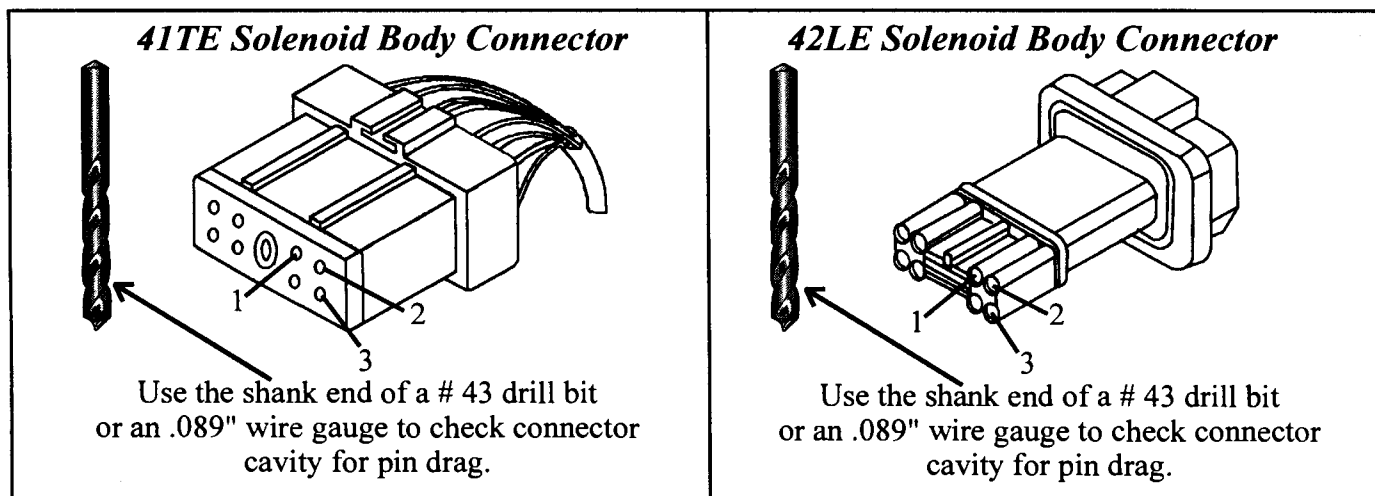

Figure 29
- Inspect cavities 1, 2 and 3 in the solenoid body 8 way connector for being spread, corroded or pushed back to far. Use the shank end of a # 43 drill bit or a .089" wire gauge to check the terminal for pin drag (See Figure 29). Vehicles equipped with the 41TE transaxle have a connector repair kit available from Chrysler under part number 4419476 if connector replacement is needed.